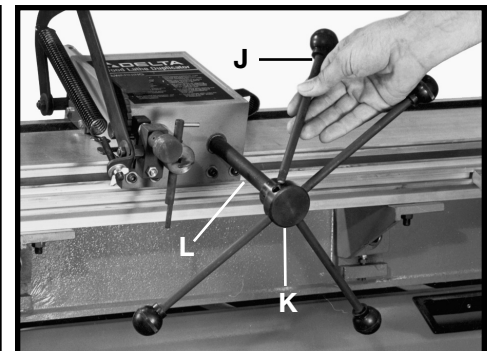

Fig. 42
6. Thread four handles (J) Fig. 42 into hub (K) of carriage shaft (L).